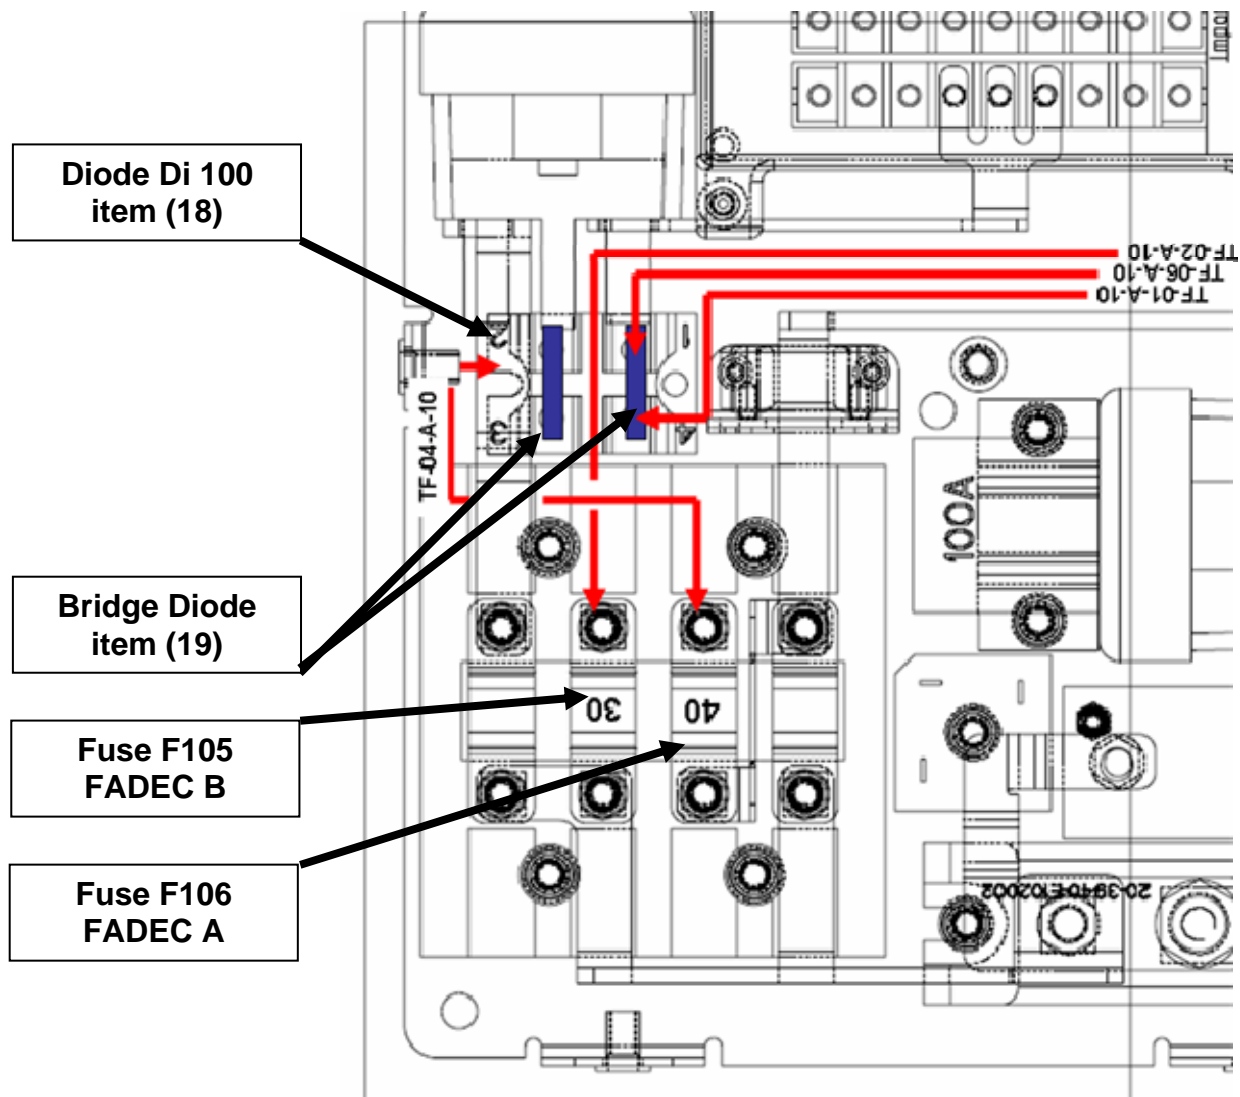

Figure 3 Relay board TAE (14V and 28V) after modification
Cessna (F) 172 F,G,H,I,K,L,M,N,P (see figure 3)
- Install new diode (18) into the relay board.